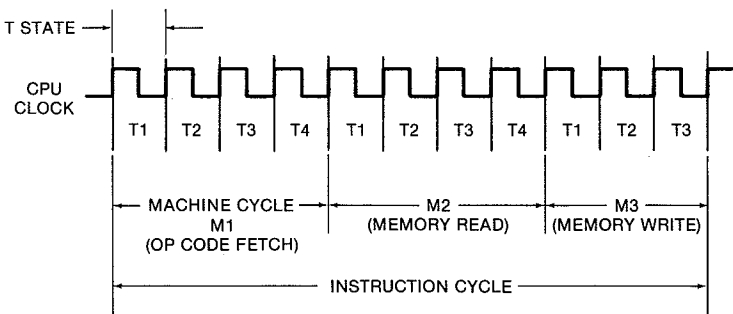

Fig. 4-4. CPU timing for executing a typical instruction. (Courtesy MOSTEK Corp.)
All CPU's operate by repeating a few basic steps over and over. These steps are performed according to a complex interconnection between various circuits within the CPU. These circuits operate "synchronously"; that is, they all perform their functions at a very specific time. All of the circuits within a Z80 are timed in accordance with a single clock signal. In the T/S 2068, this is a 3.528 MHz square wave which is derived from the 14.112 MHz master oscillator inside the computer. Each cycle of the CPU clock causes a specific action to take place within the Z80. This is also referred to as a *T cycle*. It takes several *T* cycles to perform a *machine cycle*. Each machine cycle represents the transfer of one byte into or out of the CPU. An *instruction cycle* consists of one or more machine cycles and represents the smallest unit available to the machine language programmer. Fig. 4-4 shows the basic CPU timing for an INC (HL) instruction. This operation involves reading the value of a memory location into the CPU, adding one to this value, and then storing the new value back into the memory location.